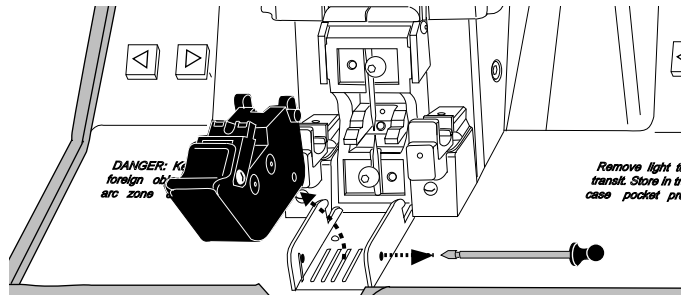

Figure 75
1. Turn off the set and remove the light tower and electrodes to provide better access to the V-grooves (Figure 75).